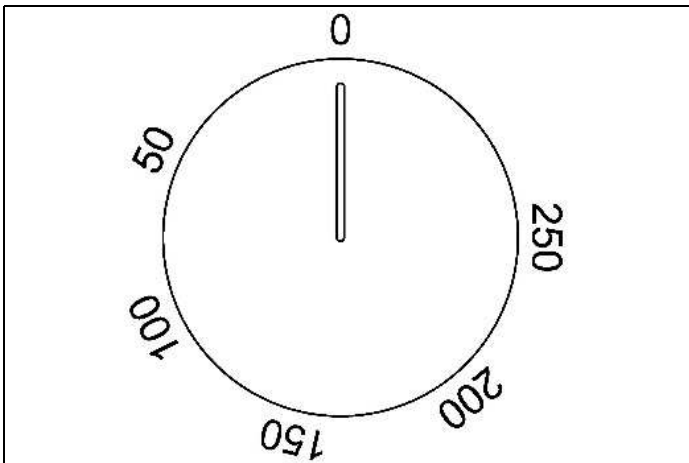

Fig. 20
Turn the knob (Fig. 20 ) clockwise to align the required temperature on the collar of the knob with the screen-printed scale on the fascia panel. When the thermostat is tripped the orange light comes on; it will go out when the temperature inside the oven reaches 10 °C above the set value and illuminate again when it drops 10 °C below the set temperature. The thermostat is only able to operate the oven heating elements if the switch with which it is combined is turned to one of the possible heating element operating modes; if the switch is on 0, the thermostat has no effect on the oven heating elements, which remain off.
- Turn the temperature knob (Fig. 20 ) clockwise to select the temperature required. The orange light goes out once the oven has heated to the chosen temperature and is ready for use. It is normal for this light to switch on and off during cooking, as the heating elements operate to keep the temperature constant. (Operation of the oven is indicated by the programmer display)